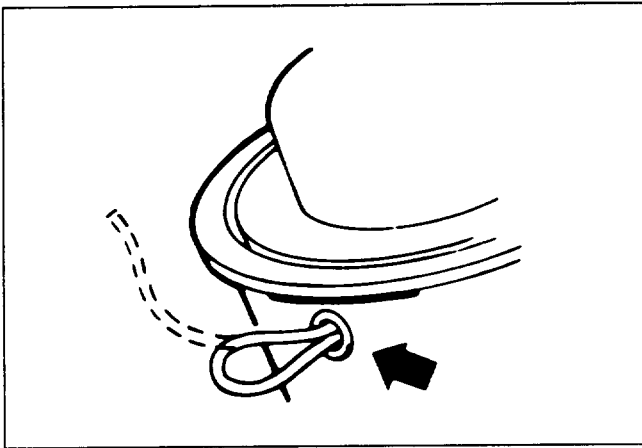

Figure 3
2. After each use, either retape or loop the line through the eyelet to prevent unraveling (Fig. 3).